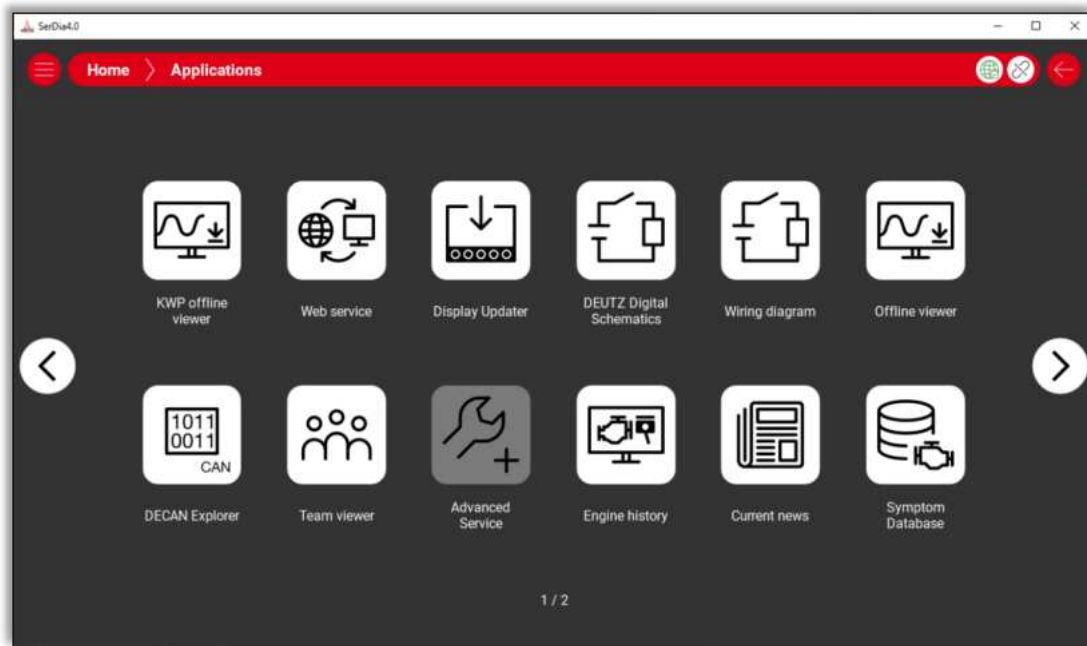

Fig. 90: SerDia 4.0 Application, Display Updater
4. Navigate to the "Applications" and select the "Display Updater" (Fig. 90). The updater is then started. A new window appears after a few seconds.